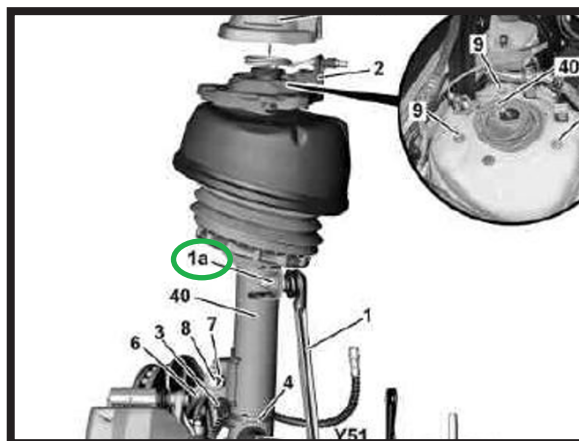

FIGURE 6 - #1a
8. REMOVE THE SWAY BAR END-LINK. (FIGURE 6 - #1a)